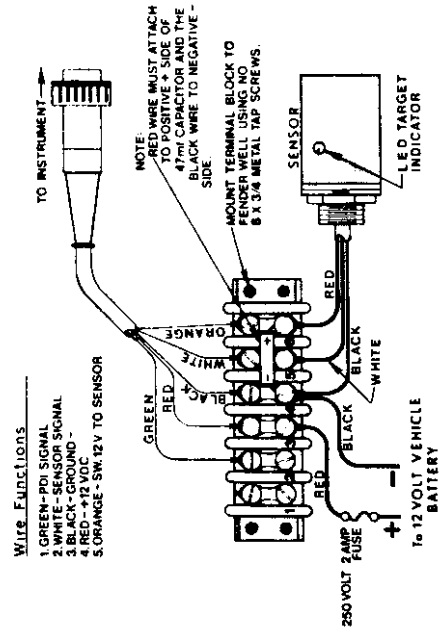

FIGURE M-6
3. Terminate the wiring as shown in Figure M-6. After completion, refer to the OPERATING PROCEDURES SECTION for calibration and operational procedures.